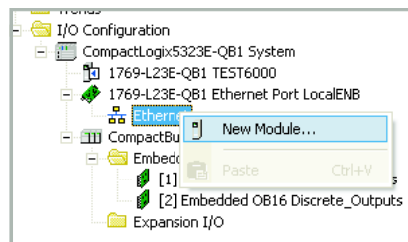

Figure 84 New Module
- In the left pane tree-view of the RSLogix 5000 window, right-click on the EtherNet symbol and select 'New Module...' from the menu (Figure 84).